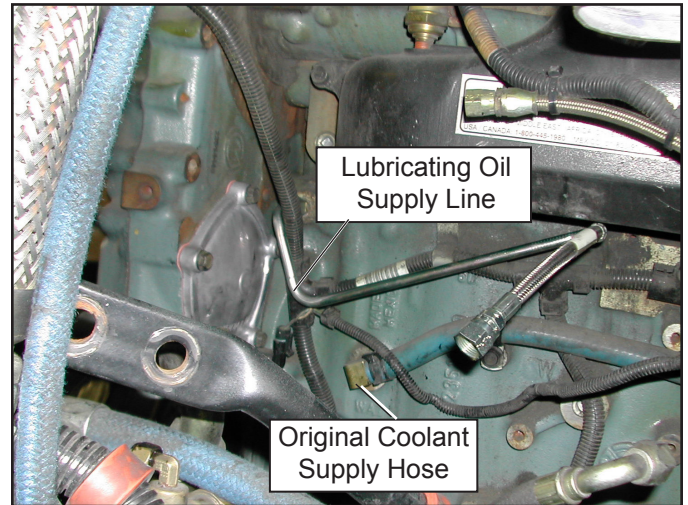
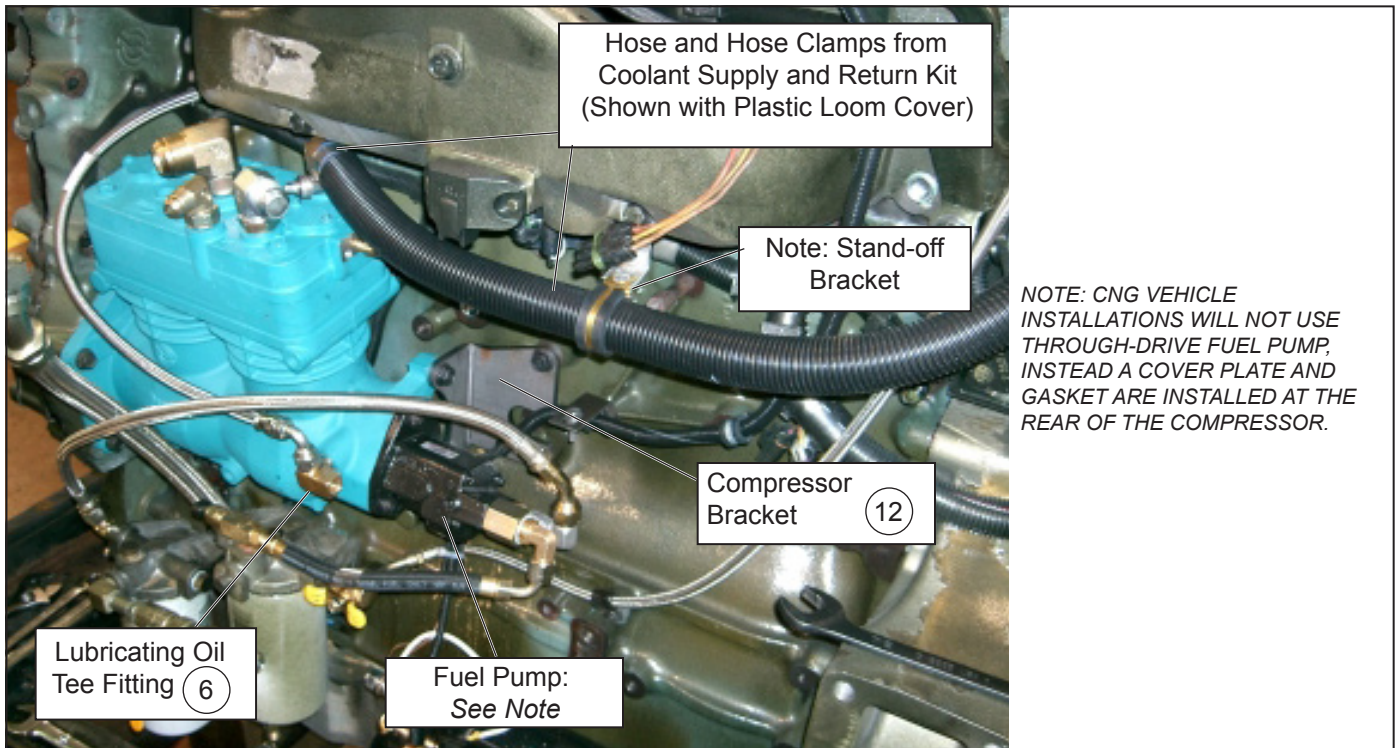
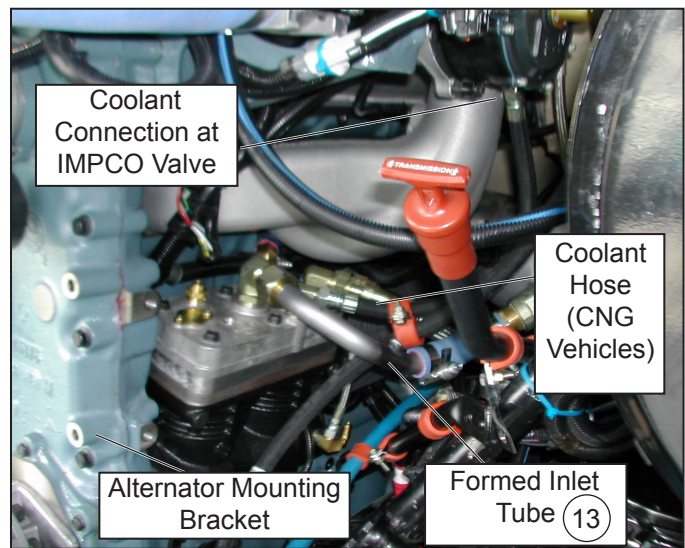
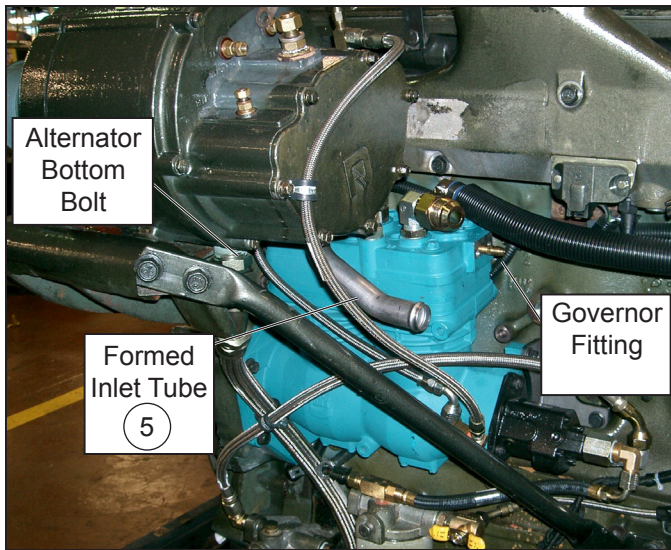

Figure 1 – Engine Compartment After Compressor Removal
Figure 3 – Shows Mounting Bracket, Coolant Supply Routing, and Fuel Pump
Figure 6 – Engine Compartment View (CNG)
Figure 7 – Engine Compartment View
2. Since the new compressor is larger than the original, it is necessary to prepare the lubrication oil supply line for the new installation by carefully adjusting the angle of the bend from approximately 90° to approximately 150°. (See Figure 1). This will allow the original line to be reused for the new installation. If the line is damaged, cracked, etc. replace it.
3. **SERIES 50 ENGINES:** Disconnect the original coolant supply hose (See Figure 1) and fitting from the engine block. The pipe plug (7), is then installed into the engine block. Since the Bendix® BA-922® compressor requires a higher pressure source of coolant to operate, the installation requires the routing of a new coolant line from the engine oil cooler housing.
See Figure 3 for a typical installation.
19. The 3/4" I.D. silicone coolant supply hose supplied in kit 5016661 connects to the coolant inlet fitting on the compressor. See Figure 3. The hose is routed from the compressor fitting, around the rear of the engine to the engine oil cooler housing. Fasten the hose using the
For CNG ENGINES: Install the included a 3/8" NPT to #8 JIC adapter fitting (10), at the IMPCO valve (See Figure 6). The other end of the hose connects to the compressor coolant outlet fitting (1) (See Figure 1). The included hose is an 18 inch long assembly with #8 JIC fittings on both ends.
For DIESEL ENGINES: Install the coolant return line (DDC p/n 23526867) from the air compressor, Fitting (1), (See Figure 1), around the front of the engine, to the water pump inlet. Figure 7 shows a typical coolant return line that runs from the air compressor, around the front of the engine, to the water pump inlet.
23. Install the 1.0" OD Formed Air Inlet Tube (5) onto the compressor inlet fitting (3). See Figure 6 for orientation. The inlet hose connects to the #16 elbow (shown in Figure 3 as (3)). Select a hydrocarbon-resistant inlet hose of 1.0" ID. Use a reinforced hose capable of withstanding 400°F temperatures and of a material strong enough to resist kinking and will not collapse under the forces present at the compressor inlet.
See Figure 6 for the location of the bottom bolt in the alternator mounting bracket (*NOTE: In many cases, this bolt is originally painted green*). **The 7/16" diameter, 1/8" thick hardened washer, included in the kit, must be placed under the head of the bolt** in order to avoid interference between the BA-922® cylinder head and the end of the alternator mounting bolt. Follow the vehicle manufacturer's guidelines for torque spec's.
See Figure 6 for a typical final compressor installation.